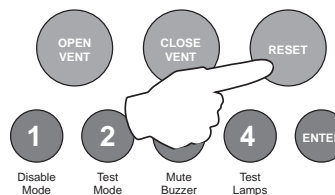

fig 2
6. When fully satisfied that there is no alarm conditions present, return to the control panel and Activate Controls, then press the (green) Reset button, see (fig 2). The panel should return to normal with the green SUPPLY HEALTHY LED and the amber ACCESS LEVEL LED illuminated on the display. Turning off Activate Controls, only the SUPPLY HEALTHY LED should be lit.